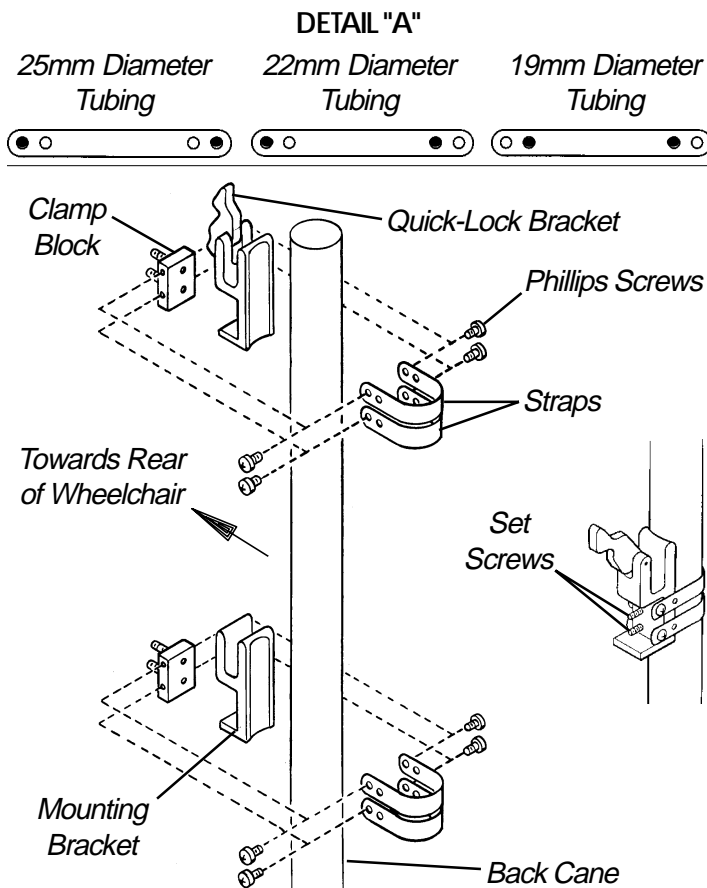

FIGURE 1 - INSTALLING MOUNTING BRACKETS ONTO BACK CANES
INSTALLING MOUNTING BRACKETS ONTO BACK CANES (FIGURE 1)
7. Position one (1) of the clamp block/strap assemblies around the back cane of the wheelchair.
8. Position one (1) of the mounting brackets in the clamp block/strap assembly as shown in **FIGURE 1**.
9. Secure the two (2) straps to the clamp block with the two (2) phillips screws removed in **STEP 3**.